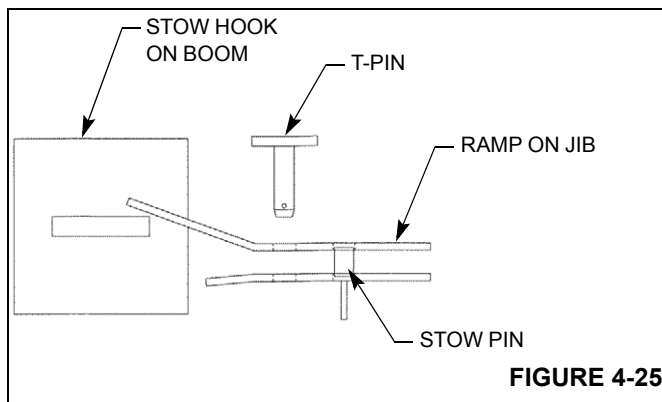

FIGURE 4-25
8. Retract the boom slowly. Observe the stow hook and lock assembly alignment as the boom is retracted, Figure 4-25.